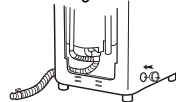

Figure 5
6. Install the protecting cover of the drain outlet to the other side, as indicated in Figure 5.